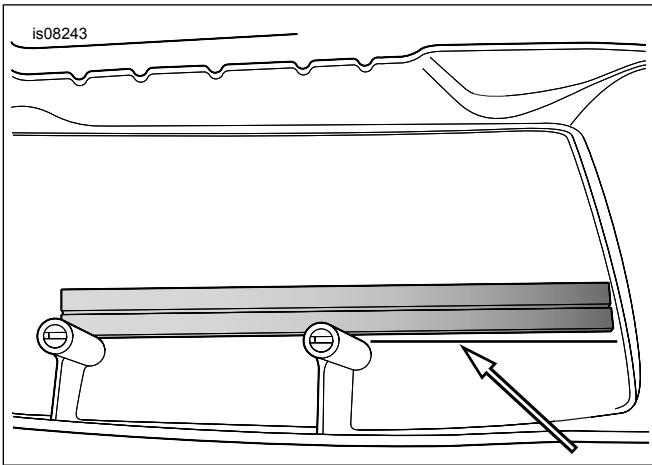
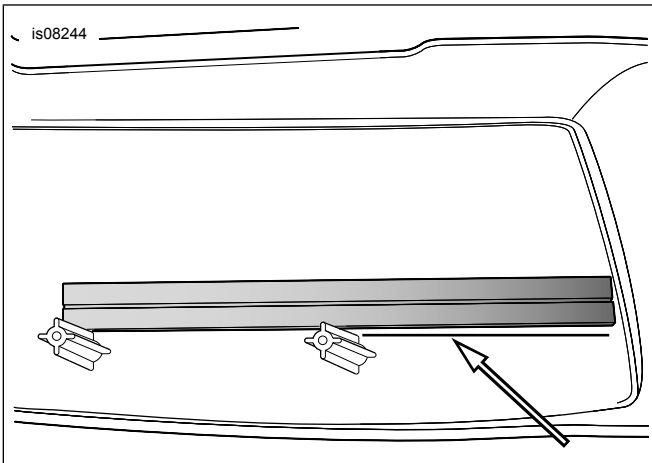

Figure 3. Position the Straightedge (Right Side Fiberglass Cover Shown)
Figure 4. Position the Straightedge (Right Side Black Plastic Cover Shown)
3. See Figure 3 and Figure 4 for your saddlebag material. Position a straightedge against the check strap mounting posts of one of the covers, and mark or scribe a guide line along the straightedge as shown.